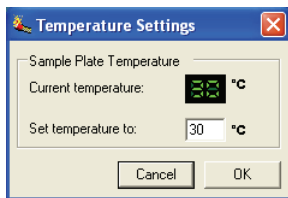

Figure 2.5 Temperature Settings box
2. Enter the temperature of interest in the Temperature Settings box that appears (Figure 2.5).